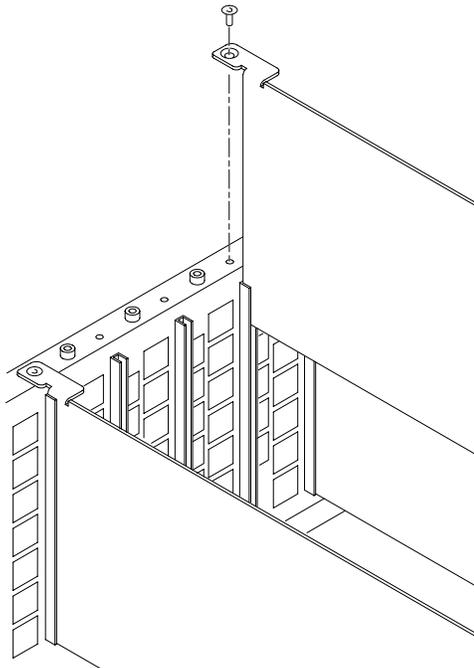

Figure 2-6: Top screw
9. Insert and tighten the top screw, supplied with your module, as shown in Figure 2-6.